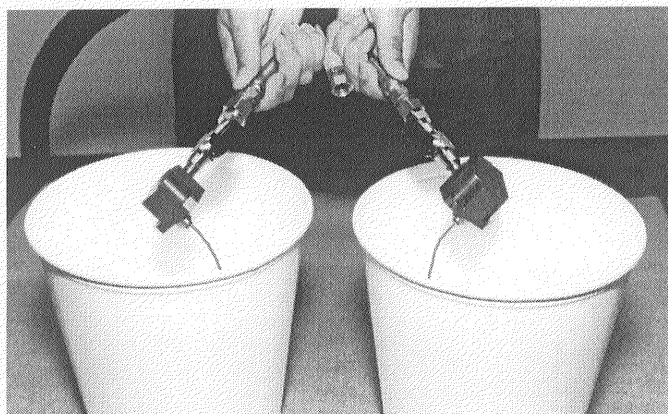
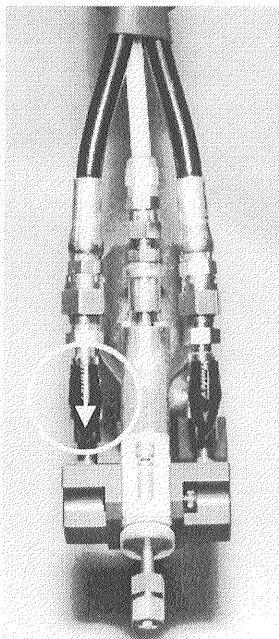

Fig. 12
Fig. 13
4. Place separate clean containers under each individual Side Block. Open manual Material Valves (black arrow forward, see Fig. 13 & 14) on each Side Block simultaneously to allow trapped air to escape the Hose and material to flow into the containers until all air is purged from the material system. (see Fig. 12)
13. Turn Purge Air and Material Valves ON at Gun. (see Fig. 13 & 14)